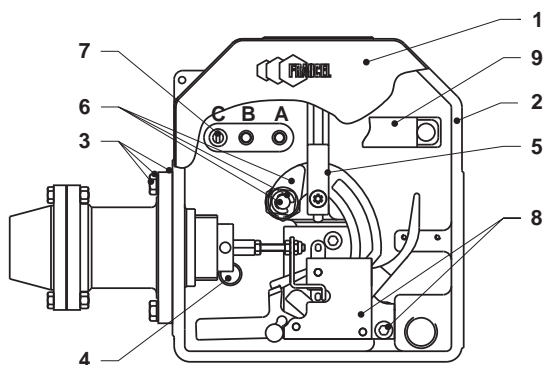

Figure 10. Mechanism Box for One BMS
The position of the travel stop (figure 10, key 7) depends on the type of assembly and its size. Position A, B or C depending on max. travel of slam shut valve: A = 15 mm travel, B = 35 mm travel, C = 50 mm travel.
• Mechanism box (BM) intervention